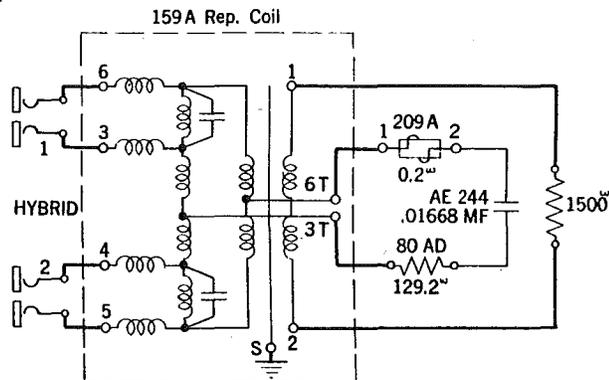

Fig. 5 - J2 Carrier Supply Test Termination
- 1 - J2 Carrier Supply Test Termination - J64729A List 1 (See Fig. 5) - J2 and Combined J2 & K Supplies Only
- (1) Lock-in the emergency carrier supply (See Part 3(A)) and test the regular carrier supply.
- (2) Patch from the TST EVEN and TST ODD jacks of the carrier generator for the carrier supply under test to HYBRID 1 and 2 jacks of the J2 carrier supply test termination (Fig. 5) for J2 and combined J2 & K supplies. When measuring the output at the TST 120-kc jacks on the 120-kc amplifier whether for K or combined J2 & K supply, terminate the TST ODD and TST EVEN jacks with 217D plugs. Otherwise, patch to HYBRID 1 and 2 as above. Also, terminate with 217D plugs the TST jacks on the J2 carrier supply amplifiers for the J2 supply, the TST 120-kc jacks for the K supply, and both the TST and the TST 120-kc jacks in the case of the combined J2 & K supply, except the unit to be tested.
- (3) Patch from the TST jacks or TST 120-kc jacks of the carrier amplifier under test to the ATTEN IN jacks of the 30A set.
(1) Insert 217D plugs in the TST jacks of the 5-kc oscillator and the J2 carrier supply amplifiers under test.
(2) Patch from the TST EVEN and TST ODD jacks to the HYBRID 1 and 2 jacks of the J2 carrier supply test termination (Fig. 5).
(3) Calibrate the 30A set as given in another E Section.